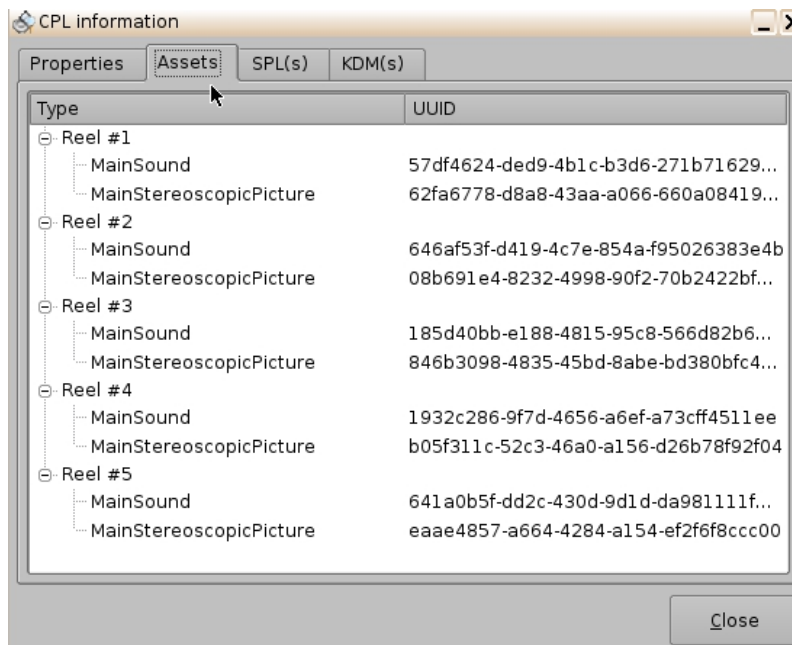

Figure 66: CPL Information Window - Assets Tab
- The Assets tab displays information on all the Reels that compose the CPL and the Assets in each Reel (Reel number, subtitle and sound). See Figure 66 below.